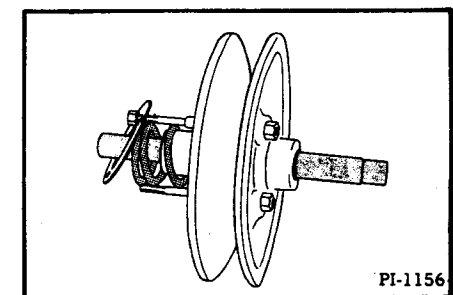

Fig. 50 Mounting Spring Retaining Plate
6. Loosen the nut on one of the guide bolts and slide the bolt through far enough so a spring retaining nut can be started (Figure 50).
4. Loosen the nut on one of the guide bolts and slide the bolt through far enough so a spring retaining nut can be started (Figure 50).